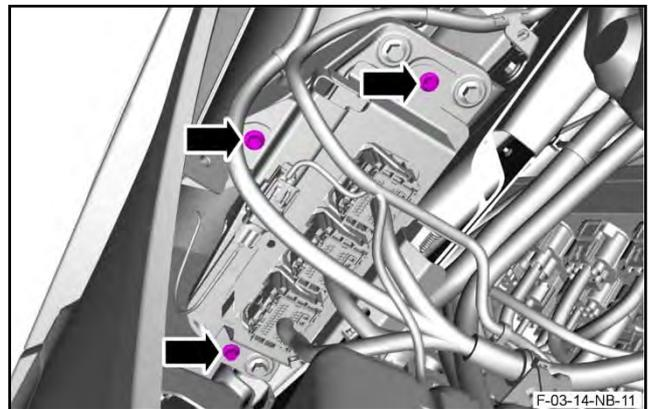

Figure 6
12. Remove the three bolts that attach the PCM bottom bracket and PCM to the PCM top bracket (refer to Figure 6).